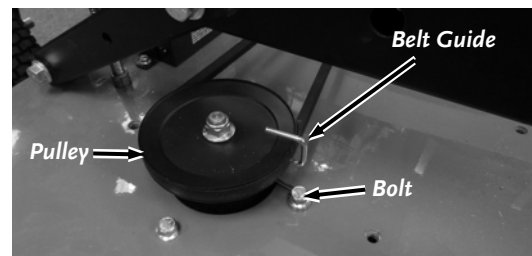

Figure 48
7. Loosen the Bolts securing the Belt Guides (*two for Pro-44 and three for Pro-60*) at the Blade Pulleys using a 9/16" Wrench (Figure 48). Rotate the Belt Guides away from the Pulleys.